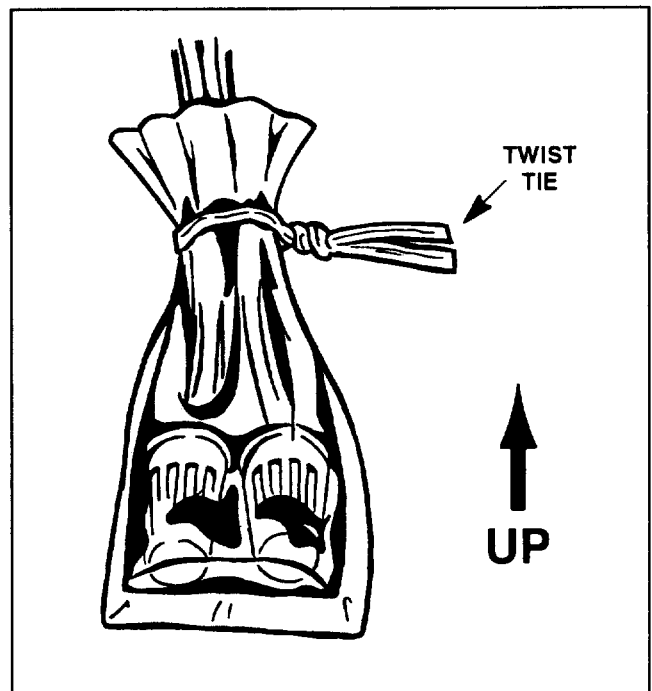

Figure 11
3. Wrap the twist tie around the open end of the epoxy bag and keep the bound end of the bag up (Fig. 11). This prevents the epoxy from leaking while it hardens.